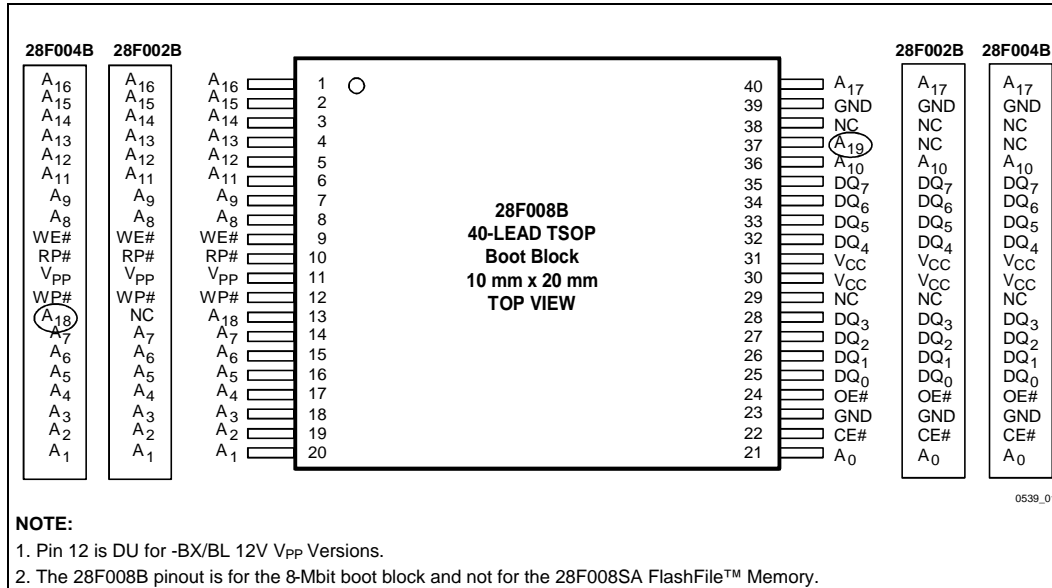
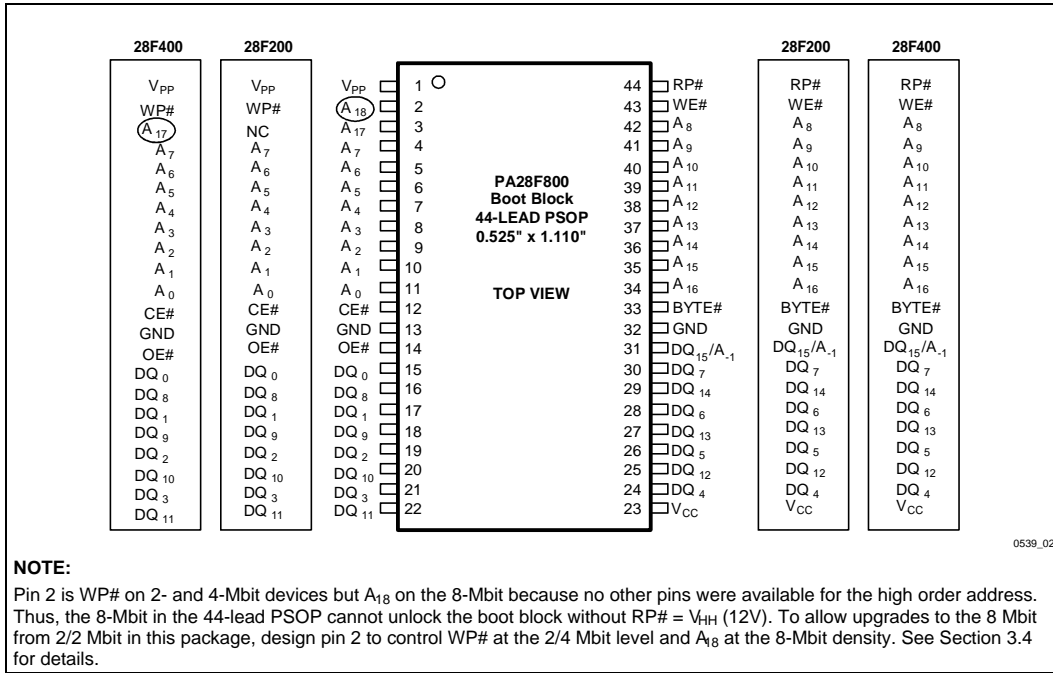
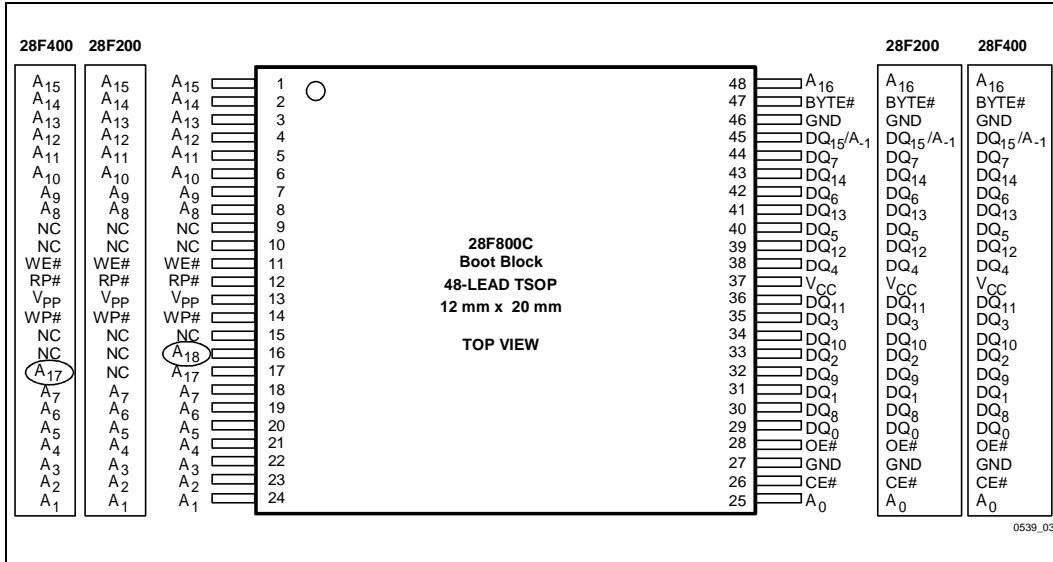

Figure 1. The 40-Lead TSOP Offers the Smallest Form Factor for Space-Constrained Applications
Figure 2. The 44-Lead PSOP Offers a Convenient Upgrade from JEDEC ROM Standards
Figure 3. The 48-Lead TSOP Offers the Smallest Form Factor for x16 Operation
- WP# pin has replaced DU (Don’t Use) pin #12 in the 40-lead TSOP package. In the 44-lead PSOP, DU pin #2 is replaced with A₁₈ (see Figure 1 and Section 3.4 for details). Connect the WP# pin to control signal or to V_{CC} or GND (in this case, a logic-level signal can be placed on DU pin #12 for 40-lead TSOP). See Tables 2 and 9 to see how the WP# pin works.
To upgrade from lower density SmartVoltage boot block products, the similar pinouts in the 40-lead and 48-lead TSOP packages provide easy upgrades by adding extra address lines (see Figures 1 and 3). In the 44-lead TSOP, the WP# pin on the 2-Mbit and 4-Mbit BV parts becomes A₁₈, removing the capability to unlock the boot block with a logic-level signal in this package **only**. The boot block can still be unlocked with 12V on RP# (see Figure 2 and Section 3.4 for details).
The 28F800 products are available in the 44-lead PSOP (Plastic Small Outline) package (a ROM/EPROM-compatible pinout) and the 48-lead TSOP (Thin Small Outline, 1.2 mm thick) package as shown in Figures 2, and 3, respectively. The 28F800 is not available in 56-lead TSOP. The 28F008B products are available in the 40-lead TSOP package as shown in Figure 1.
The 28F008B 40-lead TSOP pinout for space-constrained designs is shown in Figure 1. For designs that require x16 operation but have space concerns, refer to the 48-lead pinout in Figure 3. The 28F800 44-lead PSOP pinout follows the industry-standard ROM/EPROM pinout, as shown in Figure 2.